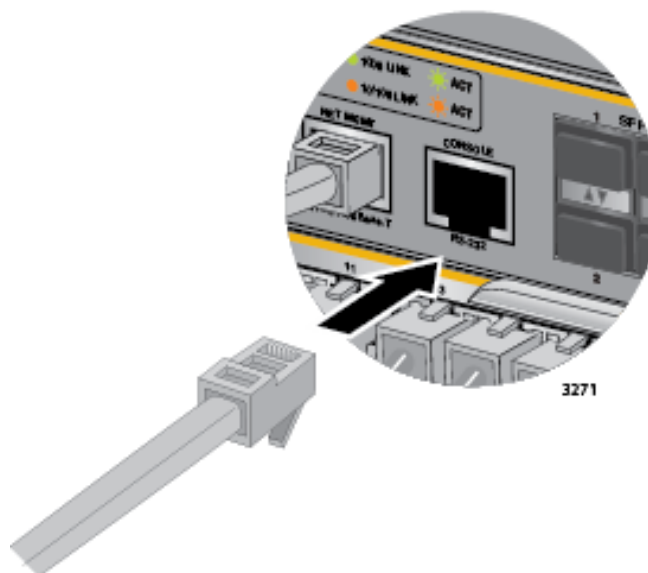

Figure 159. Connecting the Management Cable to the Console RS-232 Port
1. Connect the RJ-45 end of the management card included with the AT-SBx81CFC960 Controller Fabric Card to the Console RS-232 port on the front panel of the AT-SBx81CFC960 Control Card, as shown in Figure 159. If the chassis has two controller cards, you may use the Console RS-232 port on either card to establish a local management session with the chassis.